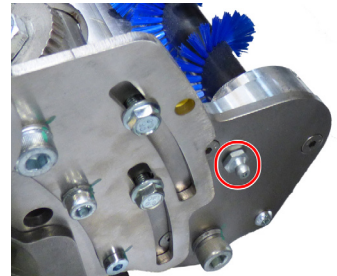

Figure 25
1. There are two grease points at front of mower (one on either side). See Figure 25.
NOTE: Only one side is shown in Figure 25.